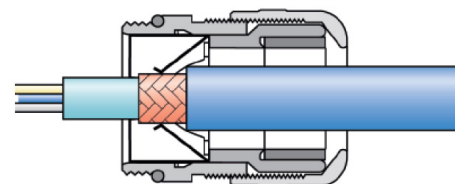

Figure 28: Cable entry
3. The cable entry should be done as shown in Figure 28.